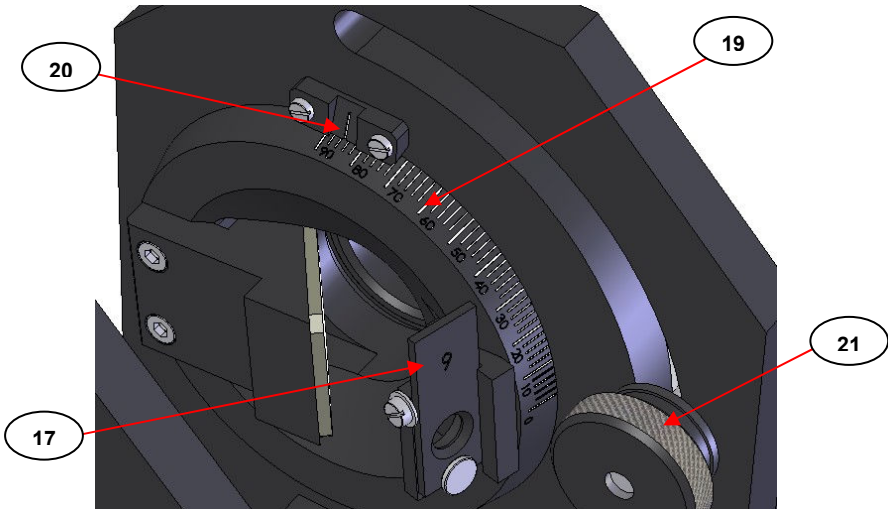

Fig 13. Detail of Angular Division Scale and Reference Mark
On each arm (1) there is an angular division scale (19) from 0° to 90° which is graduated for 2° angle intervals, although it is possible to set the butterfly arm (1) for 1° interval settings at the midpoint between the graduation marks. A specific angle is set for the butterfly arm (1) when the graduated mark on the division scale (19) is aligned with the angle indicator reference mark (20). (See detail at Fig 13. - in the image example shown the butterfly arm (1) has been set for a grazing angle at 85°.) The butterfly arms (1) are adjusted manually from rotation about the central axis point of the aperture openings (18) and are locked for a particular angle setting via use of the locking thumbscrew (21). The thumbscrew (21) is turned clockwise to lock the butterfly arm (1) when at a particular angular setting and anti-clockwise for loosening and to allow rotation of the butterfly arm (1).